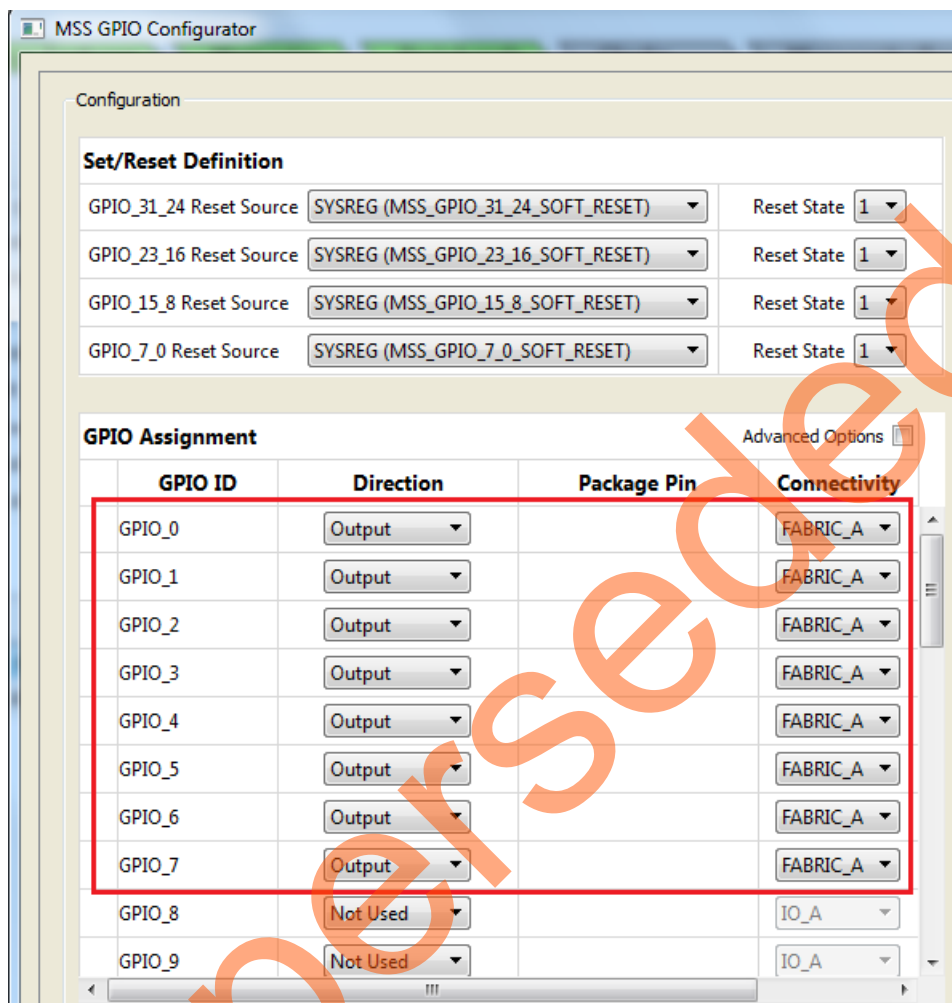

Figure 12 • MSS_GPIO Configuration
8. Use the settings in the **MSS_GPIO Configurator** tab, as shown in Figure 12 and keep the remaining at default state. Eight GPIOs are configured as output and routed to the FPGA fabric.